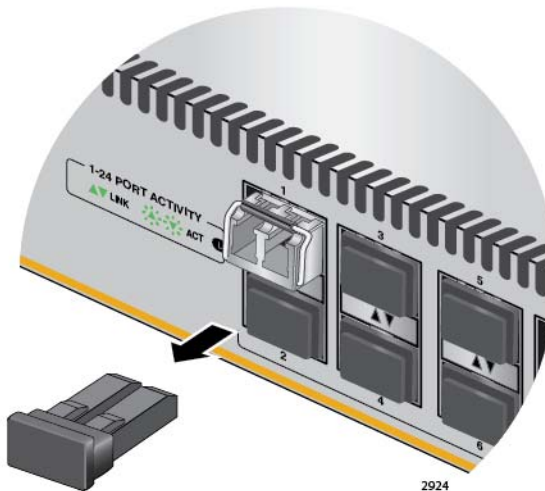

Figure 21. Removing the Dust Cover from an SFP Transceiver
5. Remove the dust cover from the transceiver, as shown in Figure 21.